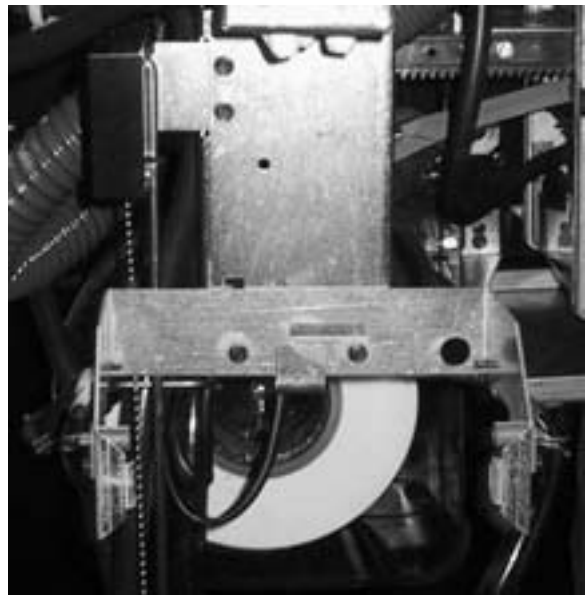

Figure 3
- a. Mount the IR Remote Bracket Assembly as shown (See Figure 3) with the nuts and screws provided.